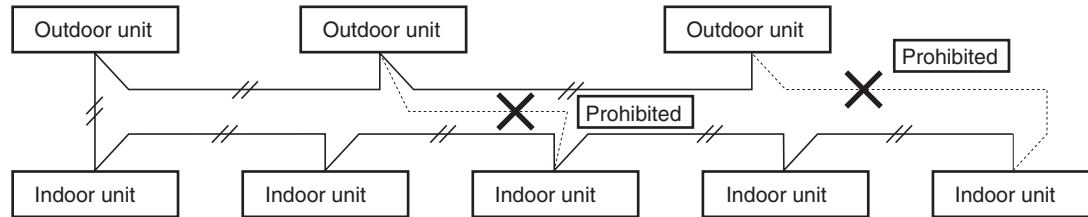

Fig. 4-1
(2) Do not install the inter-unit control wiring in a way that forms a loop. (Fig. 4-1)